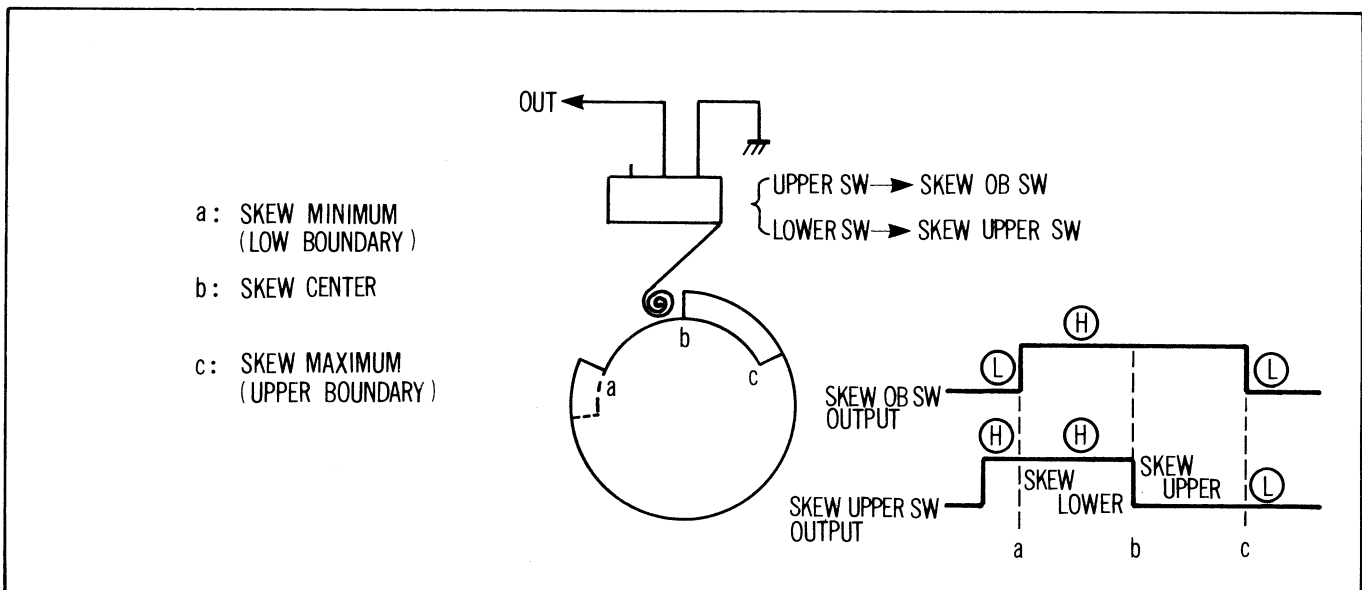

Figure 2-34
Two microswitches and a cam sense the position of the skew mechanism. One switch, the Skew "out of bounds" (OB) Switch (S6339) will close at either end of the permissible travel. The second switch, Skew upper, S6338, opens and closes at the midpoint of the travel. See Fig. 2-34